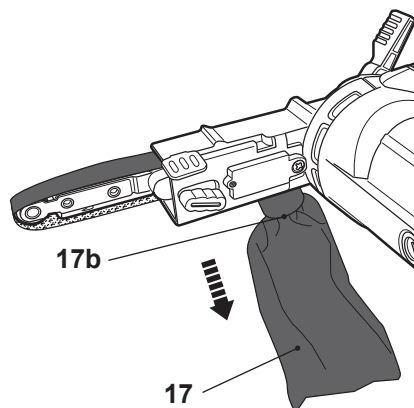

Fig. 10
- > Hold and pull the dust bag connector (17b) to remove the dust bag assembly (17) (Fig. 10).